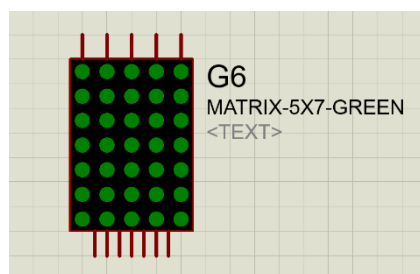

Figure 5. LED Matrix simulation model
- **For LED Matrix** (Figure 5) at least two commands should be implemented: